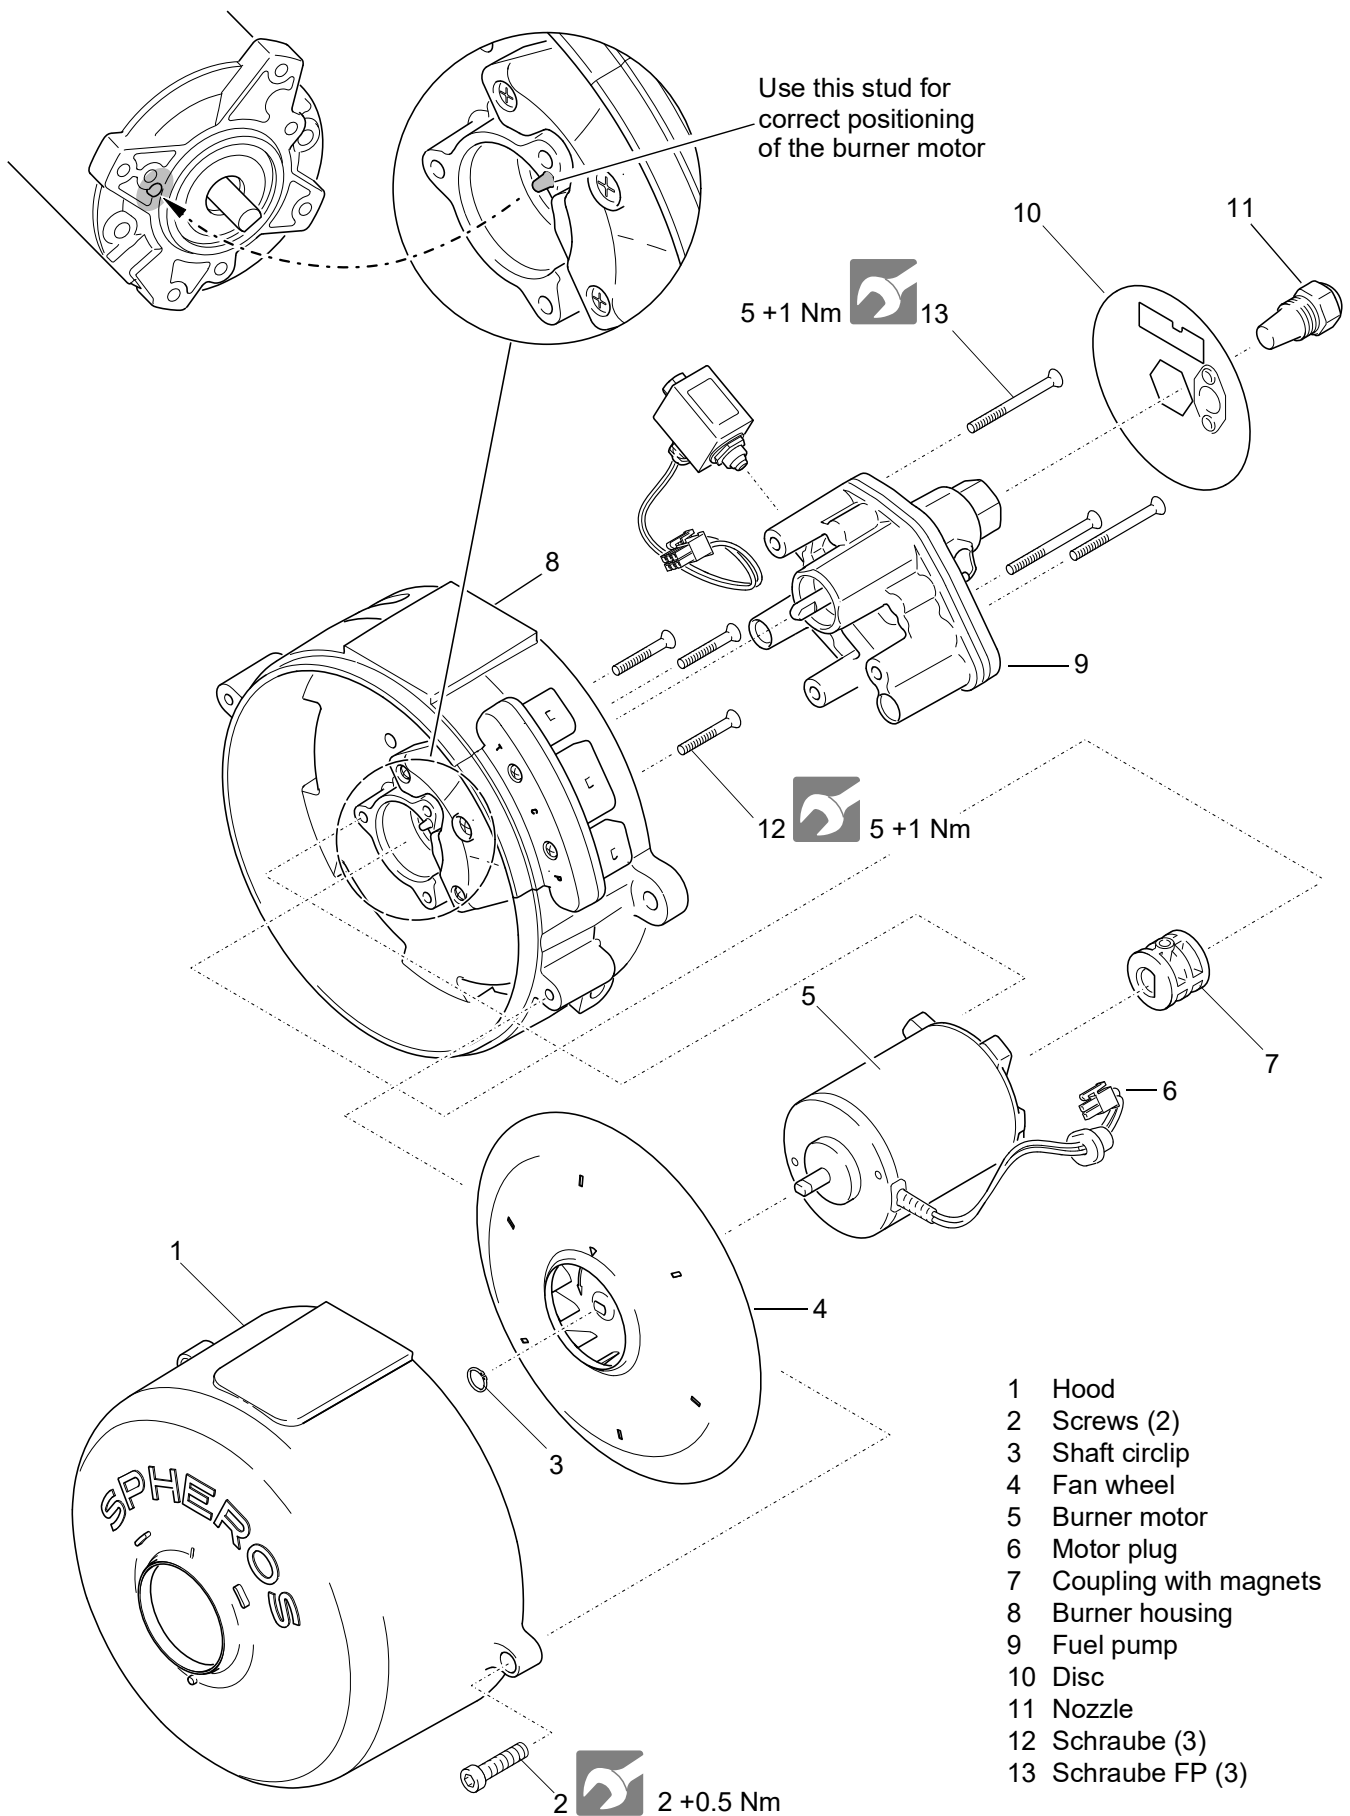

Fig. 803 Burner motor removal and installation
4. Disconnect the burner motor plug (6, Fig. 803) from control unit.
6. Remove the hood (1).
7. Remove the fan wheel (4). For that remove the shaft circlip using suitable pliers.
1. Position motor (5, Fig. 803) onto the housing (stud at the housing and hole in the motor flange).
2. Secure motor (5) with three countersunk screws M5x35 .
3. Install fan wheel (4). Install shaft circlip with suitable pliers.